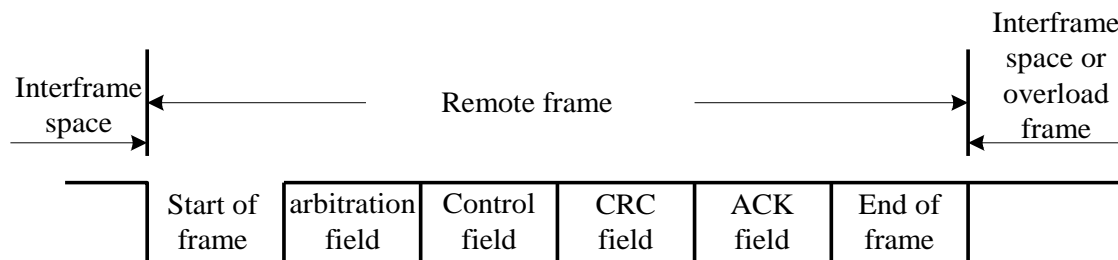

Figure 13.7 Remote frame
- ▶ Has six fields as shown in Figure 13.7